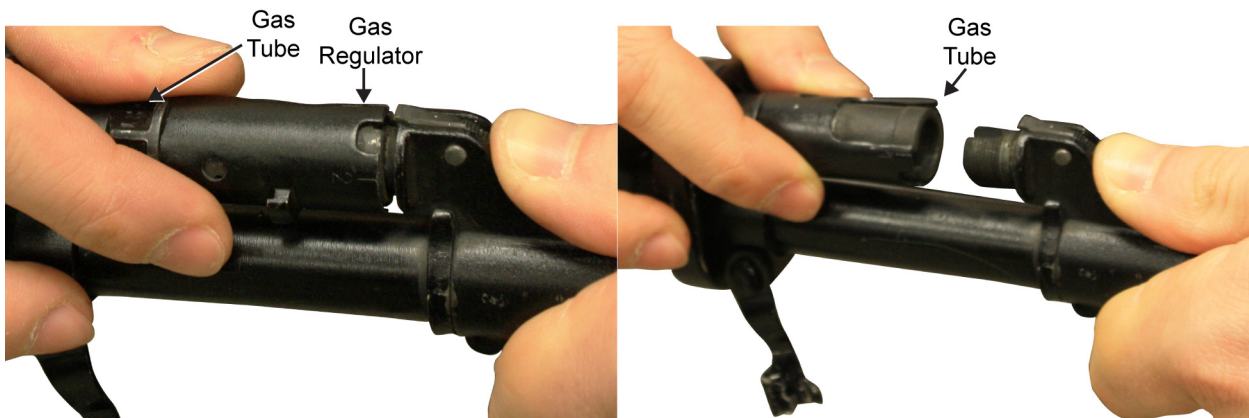

Figure 3. Removing the Gas Tube and Gas Regulator.
5. Depress the gas tube locking lever and turn the gas tube counterclockwise until it separates from the gas block. Refer to Figure 3.